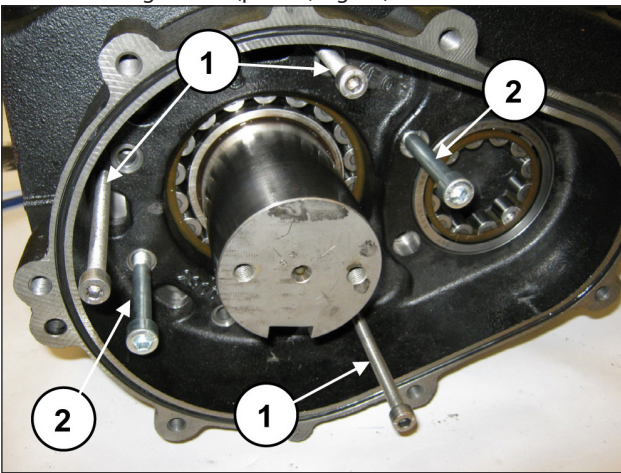

Fig. 23
Position the 3 grub screws or M8 threaded screws (pos. ①, Fig. 23) with the function of extractors in the holes and two sufficiently long M10 screws with the function of supporting the reduction gear box (pos. ②, Fig. 23).